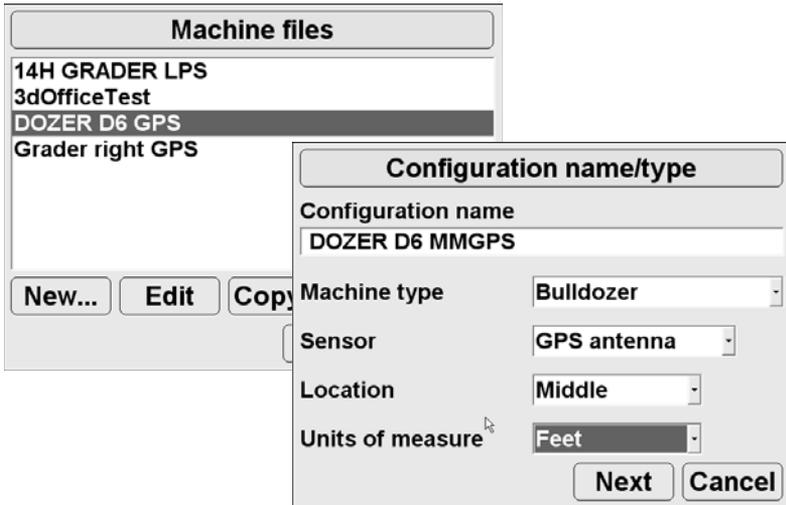

Figure 3-1. Enter Machine Configuration Information
1. Press **Topcon Logo** ▶ **Control** ▶ **Machine setup** to display the *Machine files* dialog box (Figure 3-1 on page 3-2).
3. Enter the following information and tap **Next** (Figure 3-1 on page 3-2):